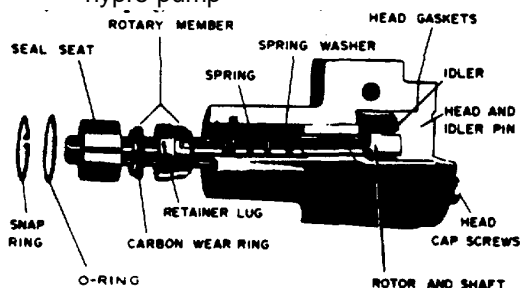

FIGURE 91
- (2) Remove Coupling.
- (3) See Figure 91. Remove Snap Ring.
- (4) Remove Seal Seat, Rotary Member, O-Ring, Spring, and Spring Washer.
- (5) Clean Rotor Shaft.
- (6) Coat Shaft and inside of rubber Bellows of the Rotary Member with light oil.
- (7) Place O-Ring into O-Ring groove inside pump housing.
- (8) Place Spring Washer and Spring on Shaft.
- (9) Slide Rotary Member part way down Shaft.
- (11) Slide Seal Seat onto Shaft to contact Rotary Member, then push the complete Seal into Body.
- (12) See Figure 91. Replace Snap Ring.
- (13) Your pump is now completely assembled. Turn Shaft by hand to be sure it turns freely.
- (14) Reinstall Coupling.
- (15) Reinstall Pump Body on Mounting Bracket and tighten Set Screws.
- (16) Start Pump with a supply of oil in the suction line, since pump should not be run dry.
- (17) See page 50 for replacing oil pump seal hypro pump